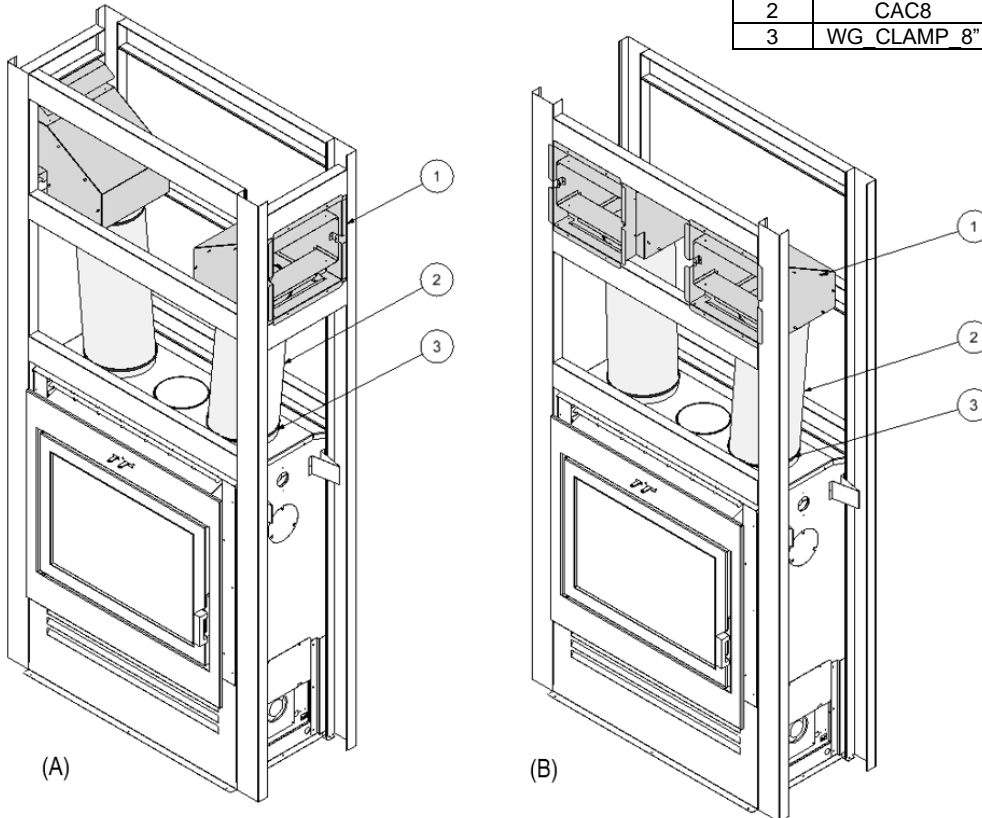

Figure 3-10: Astra Duo 8" Dual Gravity Duct Installation with Outtakes at (A) Side Wall and (B) Front or Back Wall
The Clean Face surround comprises no louvers; however, an intake into the chase and an outtake through gravity ducts is required for this configuration. The instructions below describe the installation of the intake openings, and the gravity ducts/outtakes. Please note that the SUPREME KG550 kit is required for the Gravity Kit installation (Figure 3-10). Note that openings for the intake and the outtake are to be incorporated in the construction of the chase (refer to Section 3.7).
3. Within the outtake opening, fasten the 12" Louver Diffuser (Item 1 of Figure 3-10) to the framing with the 8" duct adapter facing the downward position. Repeat for the other outtake opening.
4. Measure the distance between the Duct Adapter on top of the unit to the Duct Adapter on the 12" Louver Diffuser and cut the 8" Flex Duct (Item 3 of Figure 3-10) to the necessary length. Repeat for the other outtake.
5. Complete the connections by sliding the 8" Flex Ducts over the Duct Adapters and secure the connections with the 8" Worm Gear Clamps (Item 3 of Figure 3-10).